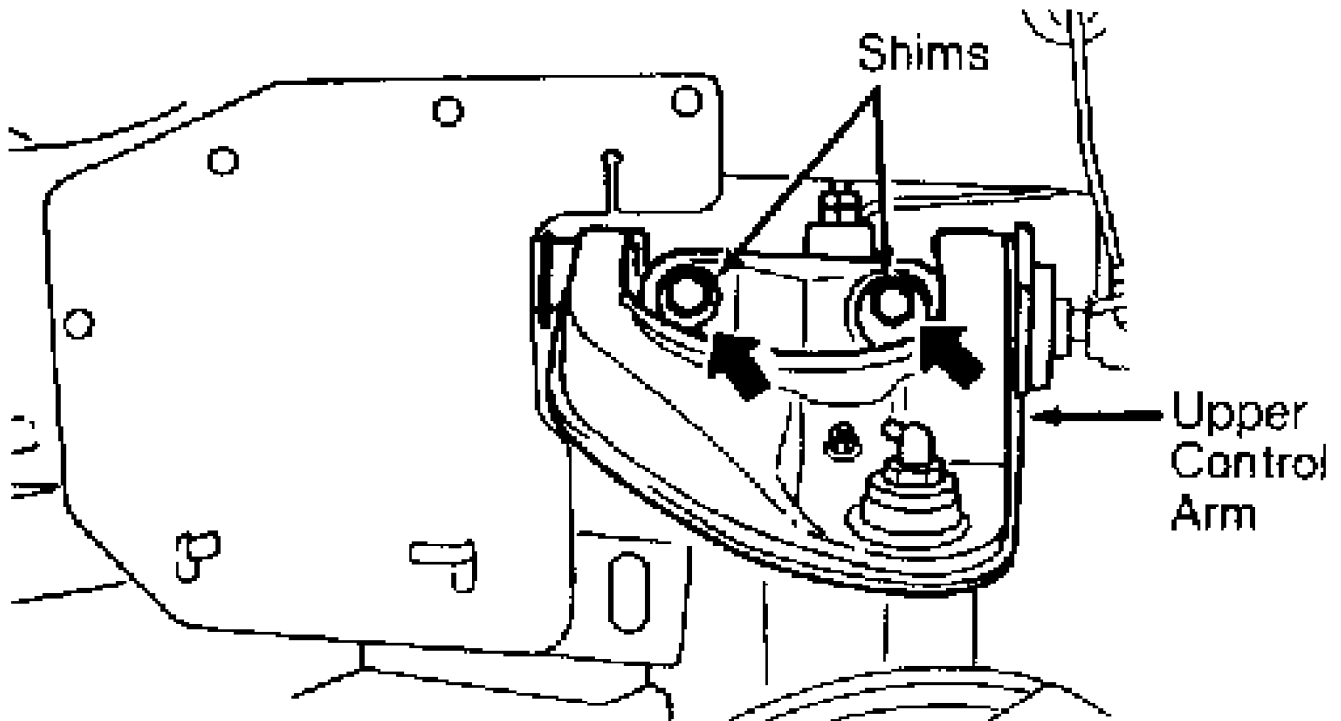

Fig. 1: Adjusting Camber & Caster (Typical)
2) Compress shock absorber, and loosen upper arm mounting bolts and nuts. Adjust camber by increasing or decreasing shims between upper arm shaft and crossmember. See Fig. 1.